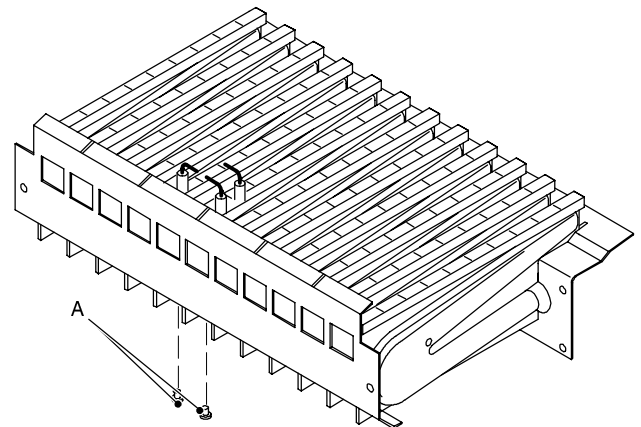

fig. 85
- 4 Unscrew the two screws A (fig. 85) which hold the electrodes to the burner.